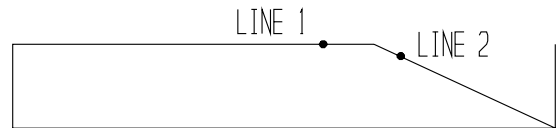

FIG. 2
Step 5. To trim part of a line, click the line you are to keep, Line 1, **Fig. 2**. Move cursor close to the intersection with Line 2 and click.